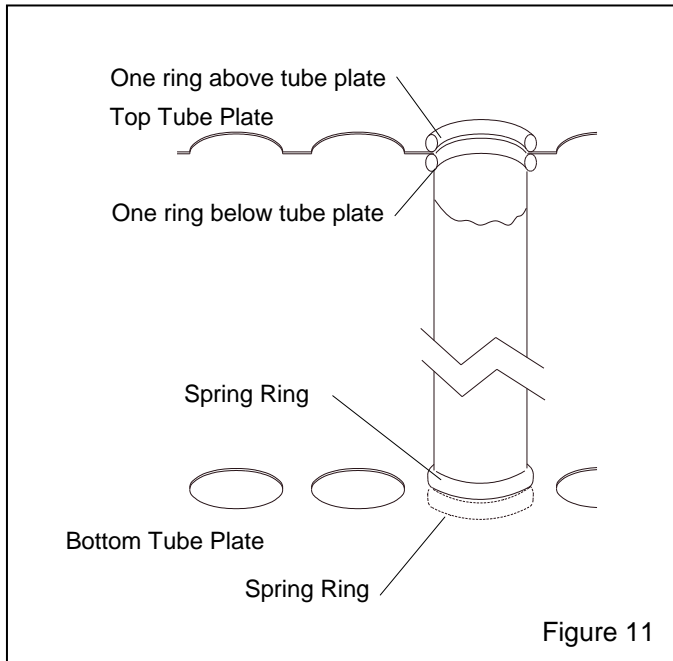

Figure 11
7.6 Dry Filter Tube Replacement, Figure 11
7.6.1 Replace damaged filters immediately. Remove the old filters by pulling the spring rings off the bottom and top tube plates. Working from the back to the front, install one filter at a time. To install new filters, form the end of the spring ringed tubular filter into a shallow "c" shape, push the filter far enough into the hole of the top plate to allow one spring ring to snap into place above the tube plate and the other to snap into place below it. See the illustration in Figure 11.